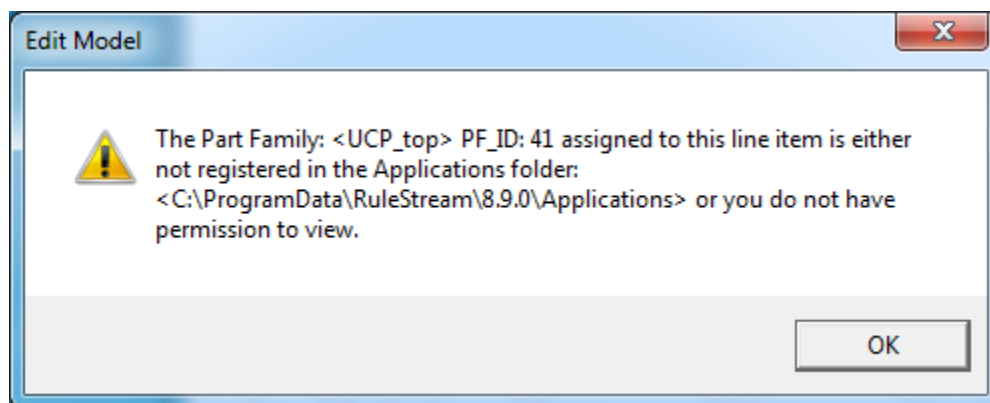

Fig. 12
2. "Delete and Recreate Data" i.e. deleting existing Part Families and creating new ones with, obviously, new IDs. This implies that any eventual Line Items previously created in Rs Engineer are no longer valid as they refer to Part Family IDs no longer existing. Trying to open existing Line Items after a "Delete and Recreate" will produce an error message as the one displayed in Fig.12